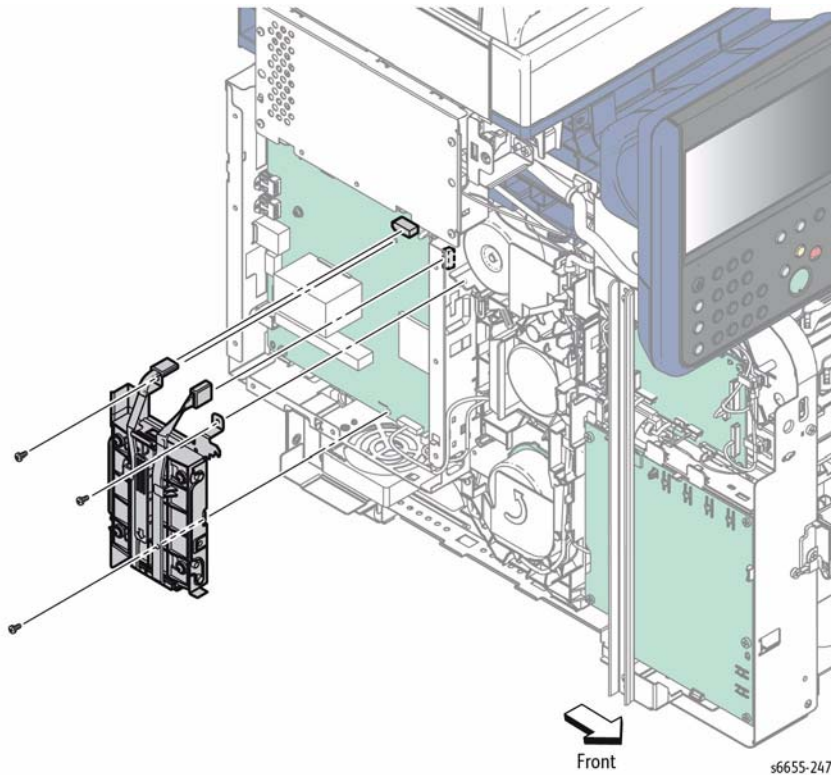

Figure 1 Remove the Hard Disk Package Kit
5. Refer to Figure 1 to locate and remove three screws (silver, 6 mm) attaching the Hard Disk Bracket (with the Hard Disk Drive) to the IP Board.